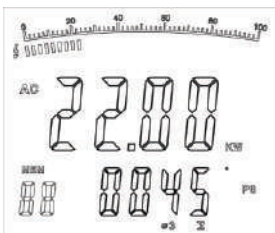

Figure 12
- If necessary, press Σ to get the sum of watts as figure 12